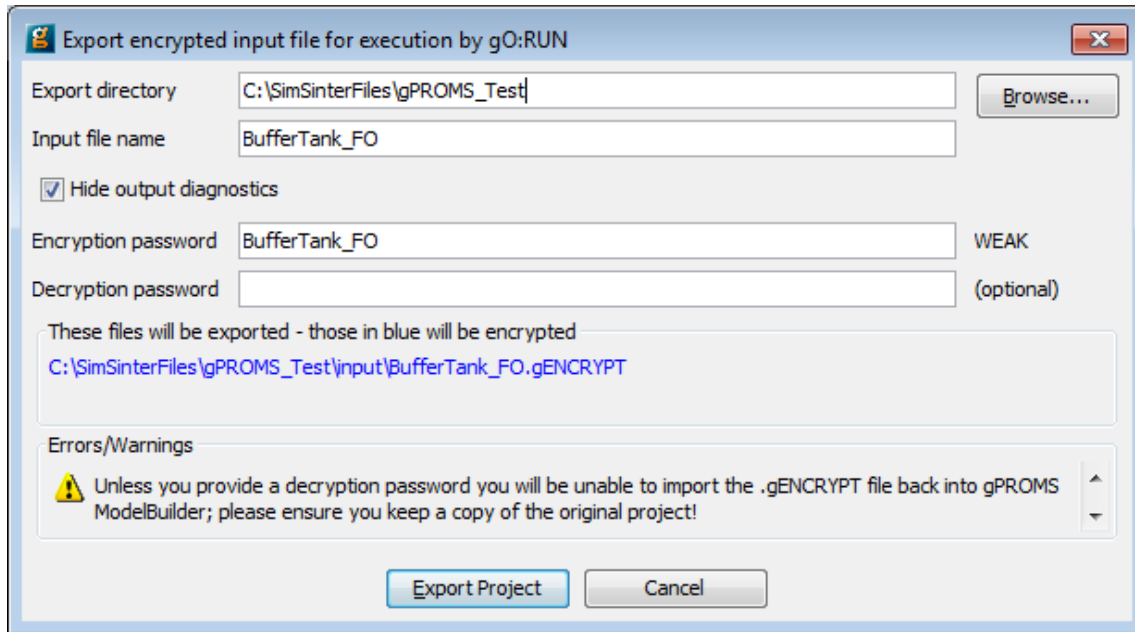

Figure 14: Export entity window.
1. Open the “SinterConfigGUI” from the “Start” menu, as shown in Figure 14.